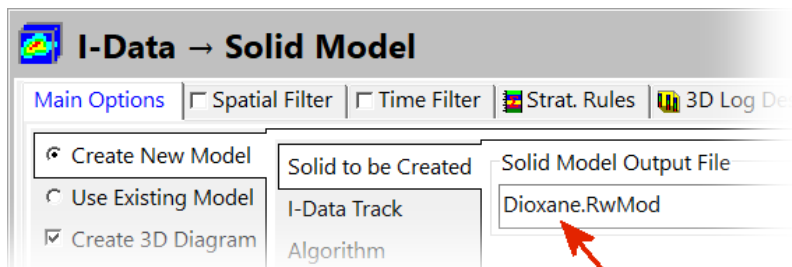

Figure 68
- Set the name of the solid model to be created to “Dioxane.RwMod” (Figure 68).